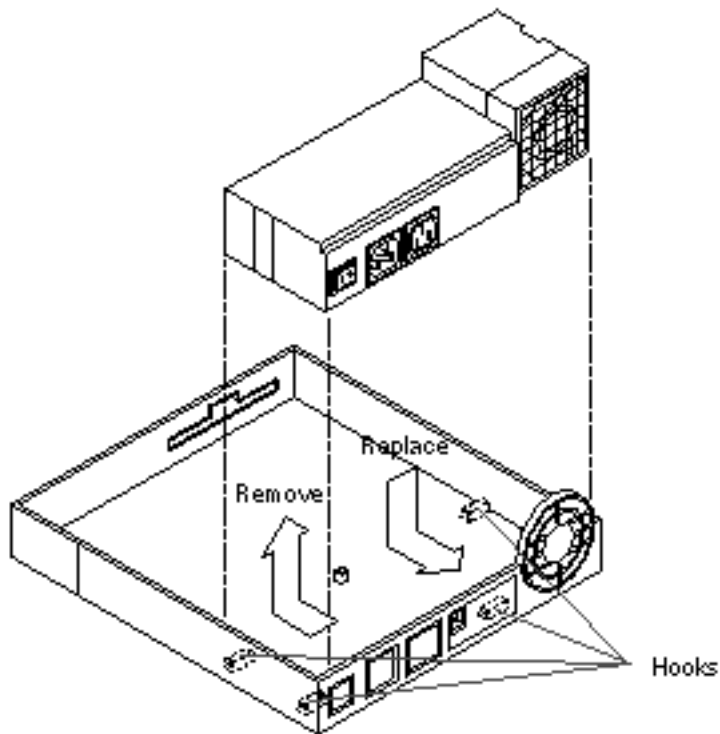

Figure 8-1 Removing and Replacing the Power Supply
Figure 8-1 shows how to remove and replace the power supply.
**6. Remove the power supply (see Figure 8-1).**
1. Align the holes in the bottom of the power supply with the hooks in the system unit top (see Figure 8-1).